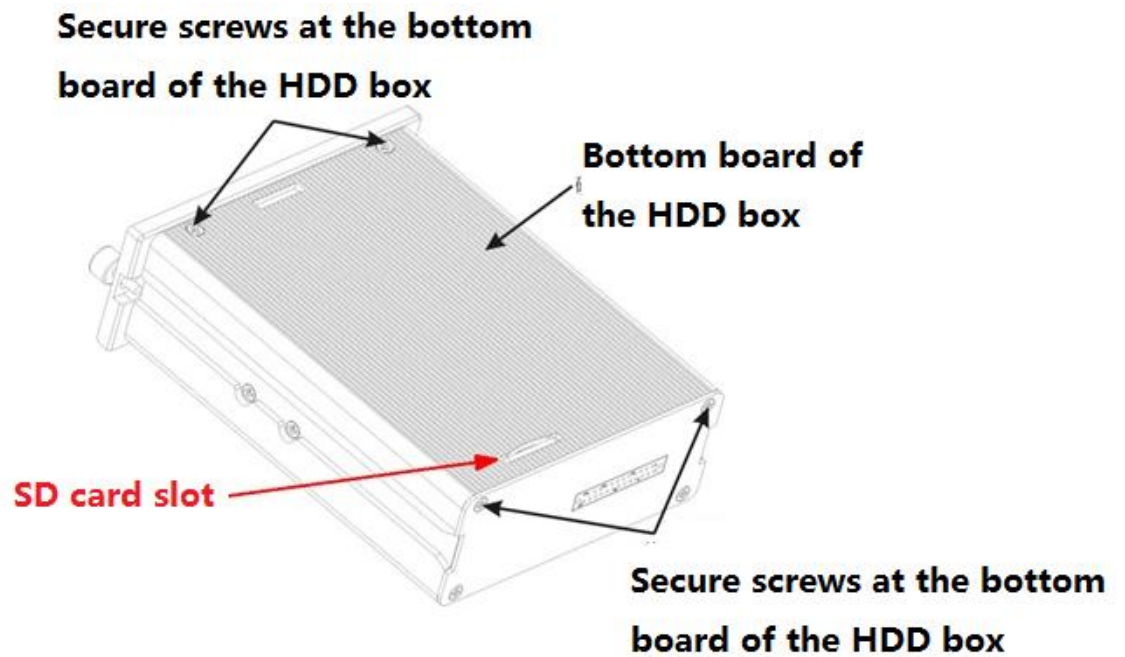

Figure 3-1
- 1) Remove the HDD box cover. Please loosen the screws of the bottom board of the HDD box and then remove the bottom board. Now you can see an interface shown as in Figure 3-1.
- 7) Refer to Figure 3-1 to put the SD card to the SD card slot. Put the HDD box back to the NVR. Now the installation is complete.